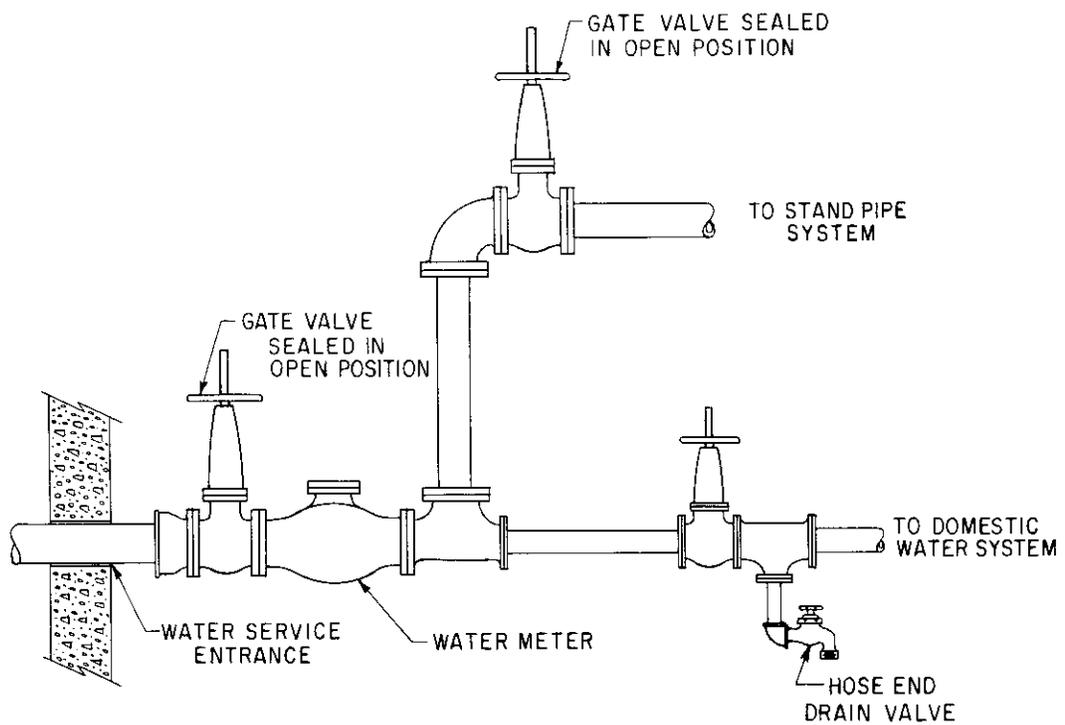

Fig. 5 – Standpipe Connected Through Water Meter
4.07 Metering: If metering is required, the standpipe system may be metered either separately or as shown in Fig. 5.